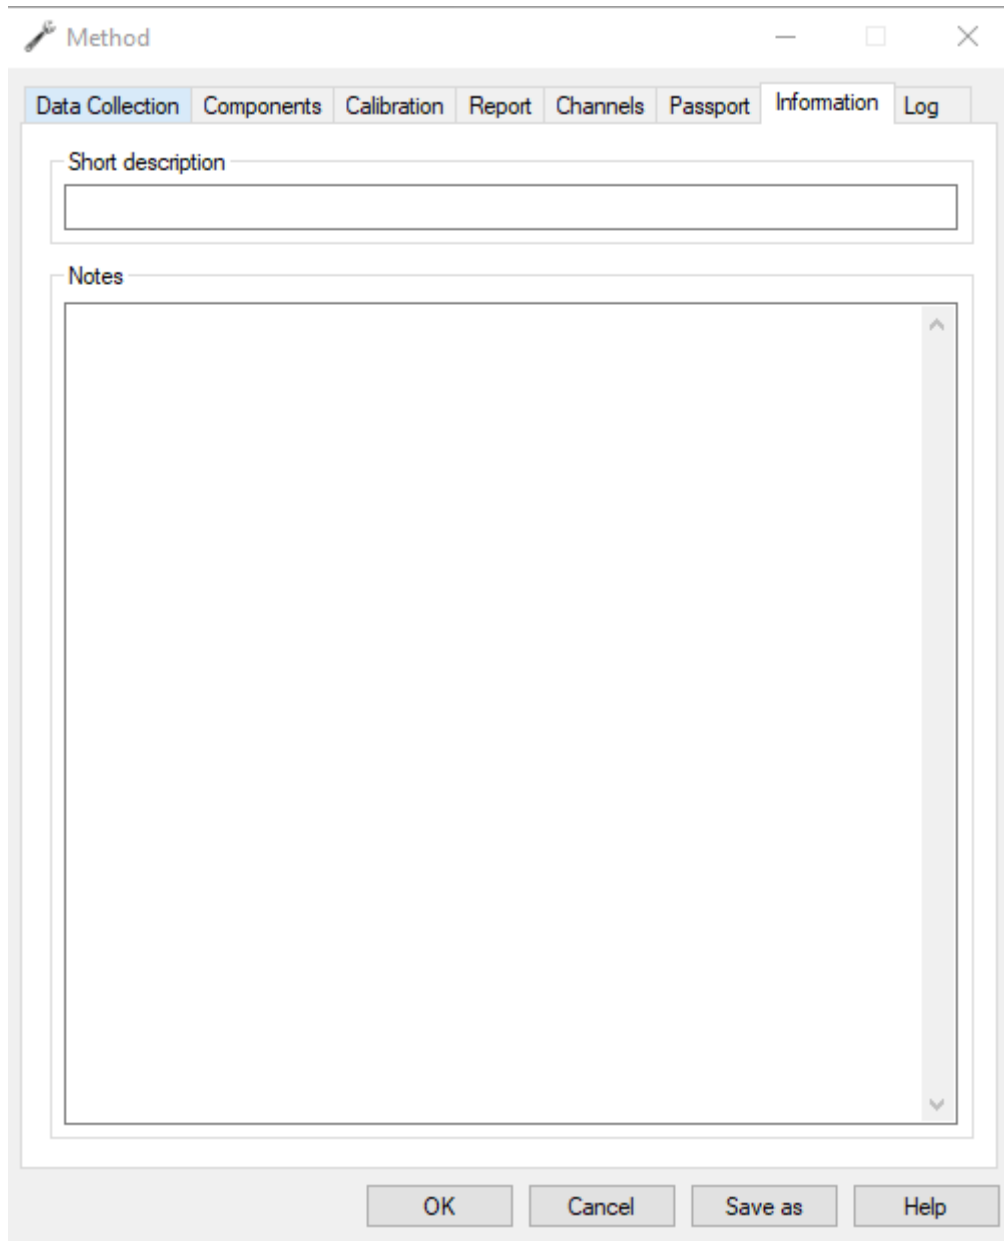

Fig. 39: Method > Information
2. In the *Information* tab (Fig. 39), specify information about the method: